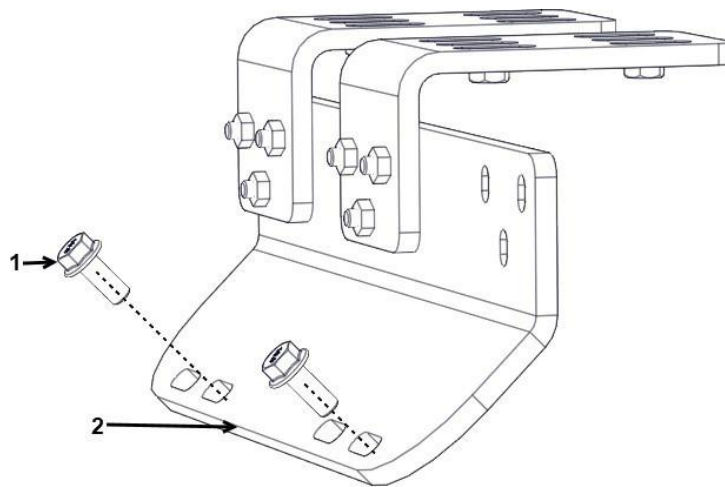

Figure 39. Lower Lock off Bracket
6. Insert and torque down the two bolts to each lower lock off bracket. (Refer to Figure 39).